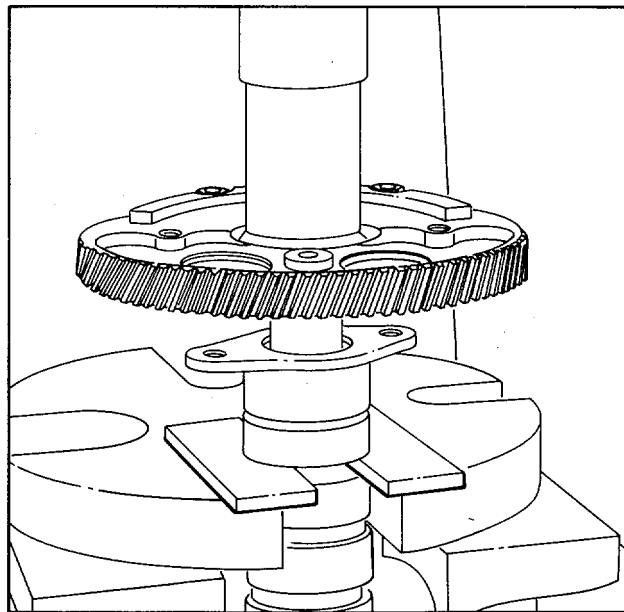

Figure 2. Installing Camshaft Gear
5. Then, with the camshaft supported in an arbor press, place a sleeve on top of the gear and press the gear tight against the spacer on the shaft (Fig. 2).